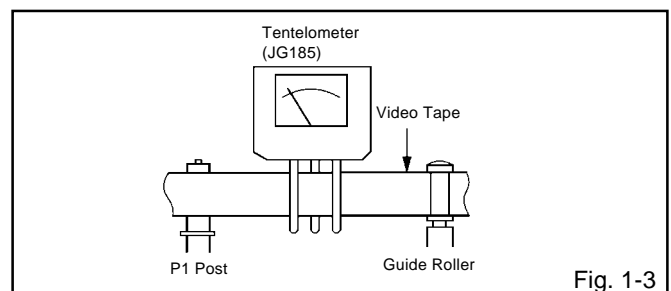

Fig. 1-3
- Install the tentelometer (JG185) as shown in **Fig. 1-3**. Confirm that the meter indicates  $20 \pm 2$ gf in the beginning of playback.